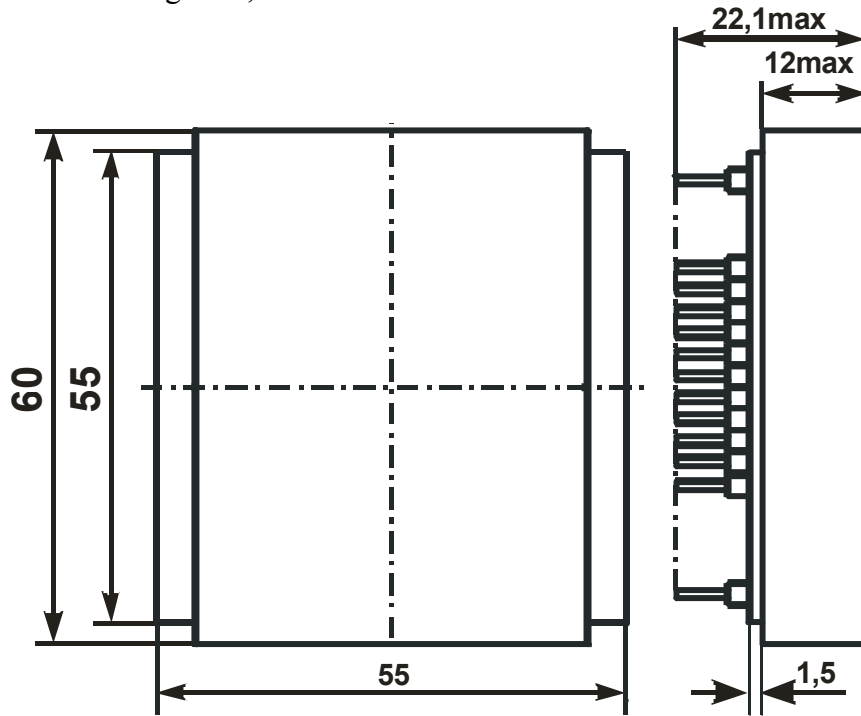
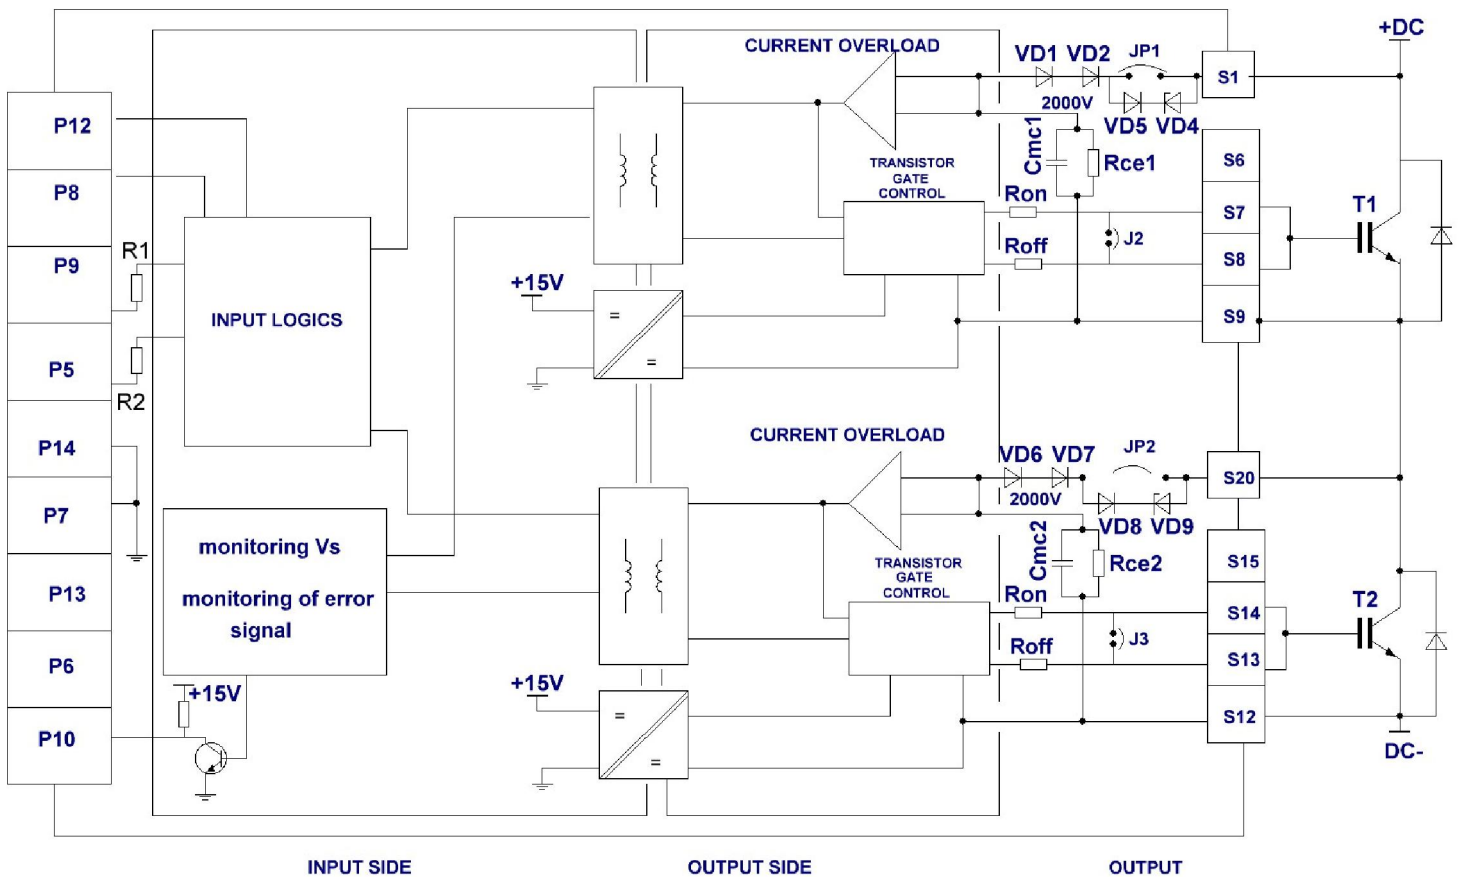

Figure 1 – Driver overall drawing
Figure 2– Driver functional and turn-on circuits
3.2 Overall drawing is shown at Figure 1, driver functional circuit and turn-on circuit are presented at Figure 2.